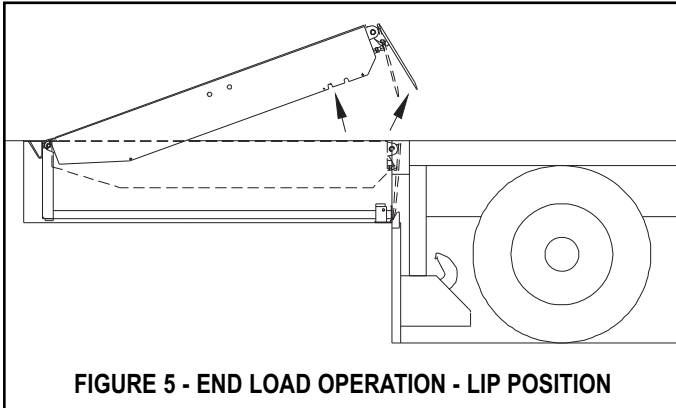
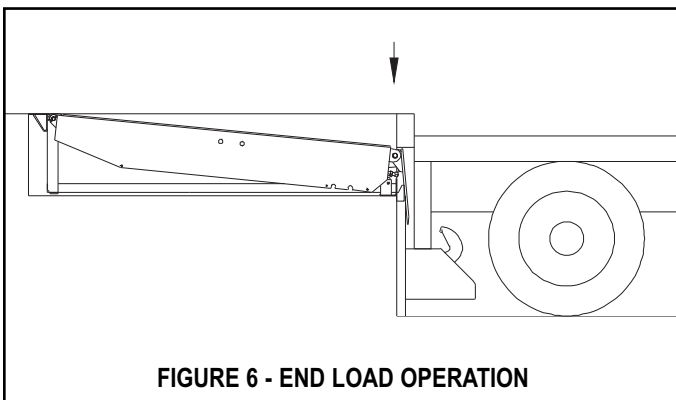

FIGURE 5 - END LOAD OPERATION - LIP POSITION
FIGURE 6 - END LOAD OPERATION
1. Activate the leveler by pushing and holding the RAISE button until leveler is fully raised and lip begins to extend. See figure 5.
2. When lip extends about 2 inches, release RAISE button. See figure 5. The leveler will lower to the below dock position with the lip positioned between the face of the loading dock and the truck/trailer bed. See figure 6.